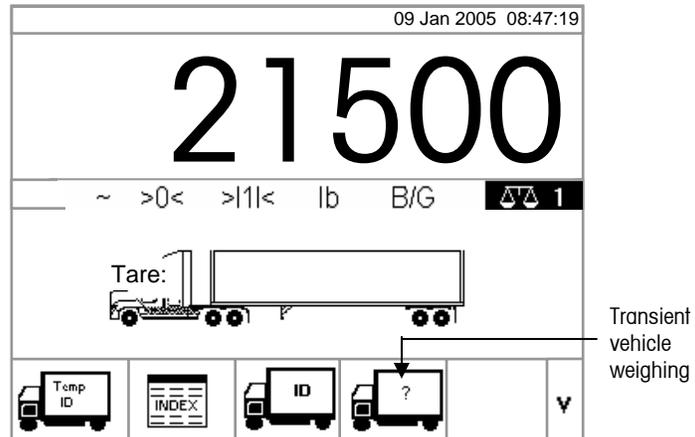

Figure 2-11: Default Weighing Screen
1. Once the vehicle is on the scale, press the TRANSIENT VEHICLE WEIGHING softkey (see Figure 2-11).